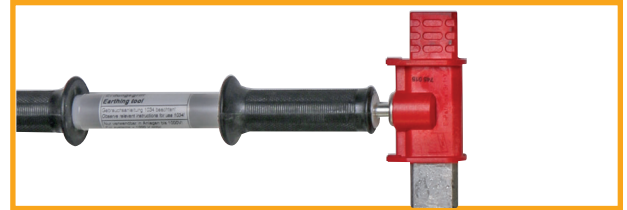

Fig. 1
1. Screw the earthing handle (M10 thread) into the relevant **NH 1 ... 3** earthing cartridge (see Fig. 1).